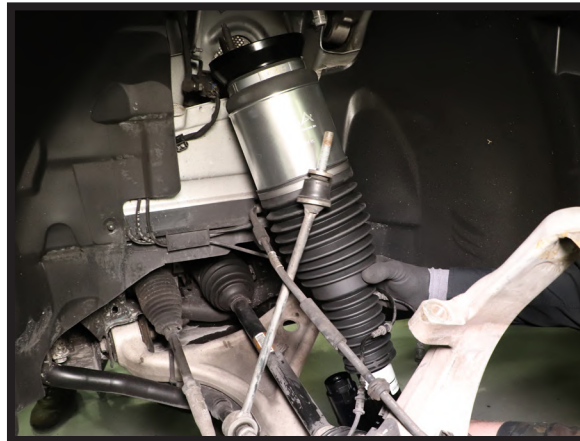

FIGURE 17
1. CAREFULLY INSTALL THE STRUT INTO THE VEHICLE. (FIGURE 17)